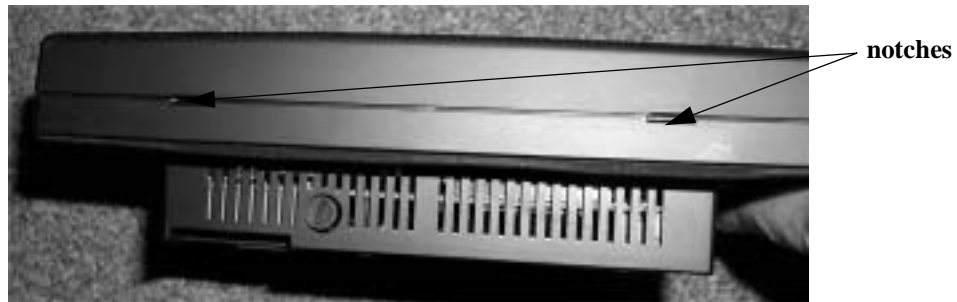

Figure 1 Removing the Cover
6. Insert a flat head screwdriver into one of the notches and twist. *Figure 1* displays two of the notch locations.